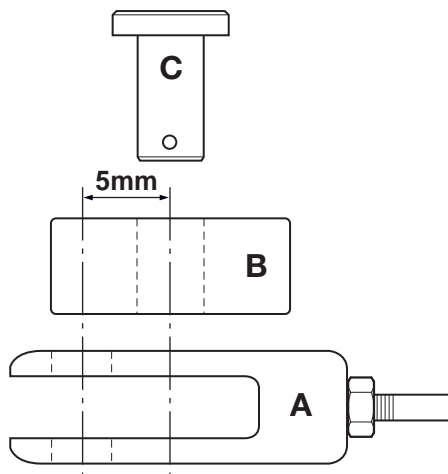

Fig 3.
- 7 Align the yoke-end with the operating arm as shown. The centre of the clevis-pin hole in the yoke-end **A** must extend 5mm through the centre of the clevis hole in the operating arm **B**. → Fig 3. (□ G-20).